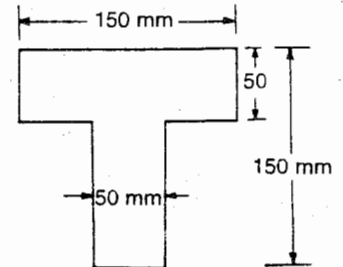

Fig. 6.30
7. Calculate the moment of inertia of a T-section about both the vertical and horizontal axis. fig 6.30